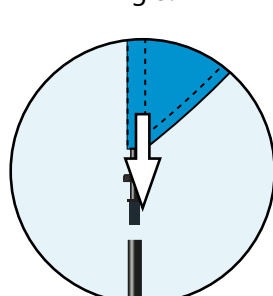

Fig 12.
10. Add the 2.5m (45mm) bottom section onto the joint of the top section. (Fig 12)